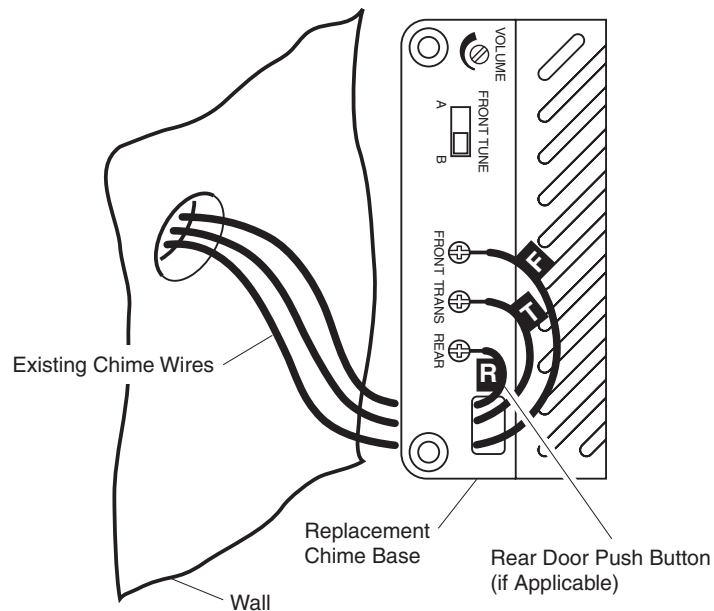

**Figure 1 - Electronic Chime Identification
7. Determine cover mounting type. For hanging type covers, cover pin should be exposed (see Figures 1 and 3).